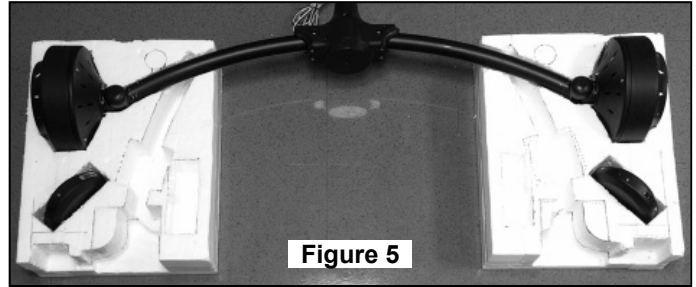

Figure 5
9. Hang the support bar / downrod assembly (assembled earlier) into the the hanger bracket. Make sure the groove of the hanger ball is positioned on the tab of the hanger bracket. (Figure 5)
10. Carefully **ROTATE** the Hanger Bracket and support bar / downrod assembly together to orientate the fan in the desired position. (Figure 5)